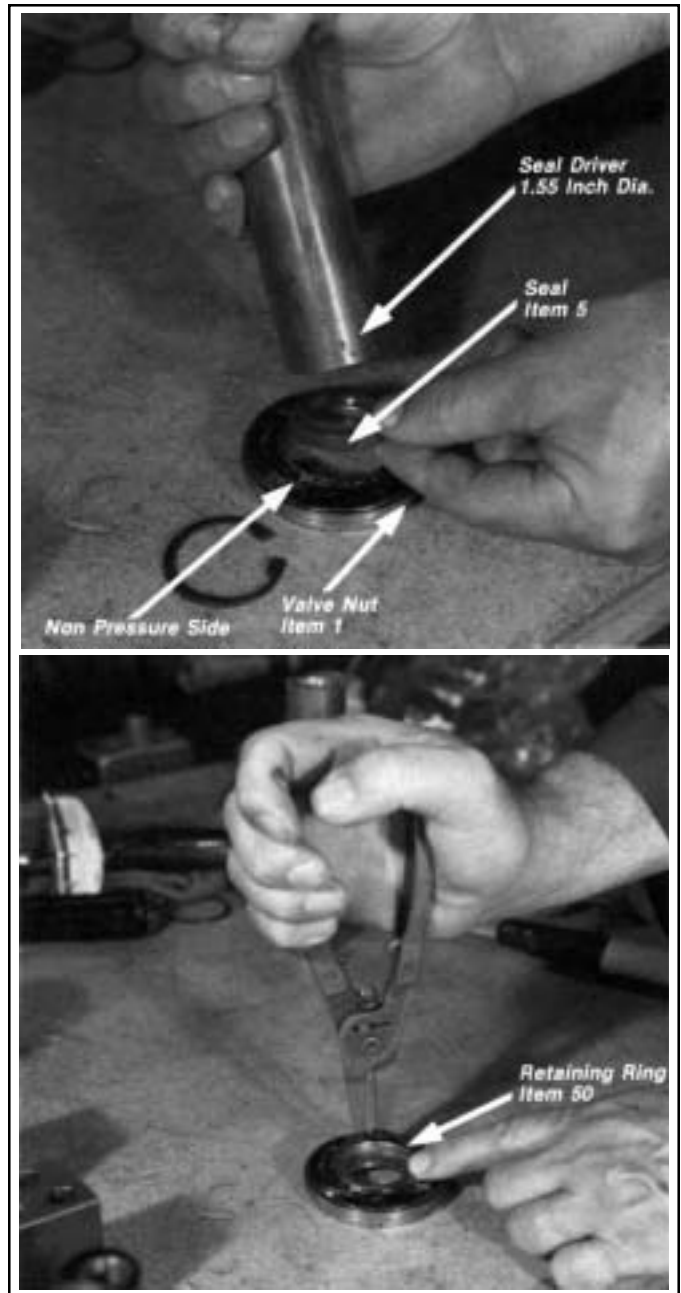

FIGURE 45 - INSTALLING PRESSURE SEAL IN VALVE NUT
9. Position the pressure side of the seal (5) in the bore of the non-pressure side of the valve nut(1). Carefully drive the seal into the bore until the retaining ring groove within the bore is visible. Install the retaining ring (50) making certain it is completely seated in the groove. After installing the retaining ring, gently tap the seal (5) from the opposite side until it rests squarely against the snap ring (50). **Note:** *The seal (5) can be driven into the valve body bore using a piece of round brass stock with a diameter of 1.55 inches.* Figure 45
10. Apply Loctite 932 or 567 to the tread of the valve nut (1) **Note:** *Due to the proximity of the spindle ball bearing, use extreme care in applying the Loctite to the valve nut threads and allow adequate cure time. Making certain not to damage the seal (5), install the valve nut (1) over the input shaft end of the spindle assembly (3) and into the valve body (7). Using Bendix tool 106234,*